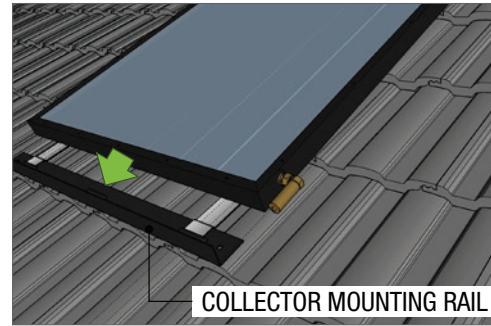

Fig 5
6. Position the collectors on the collector mounting rail (Fig 5)